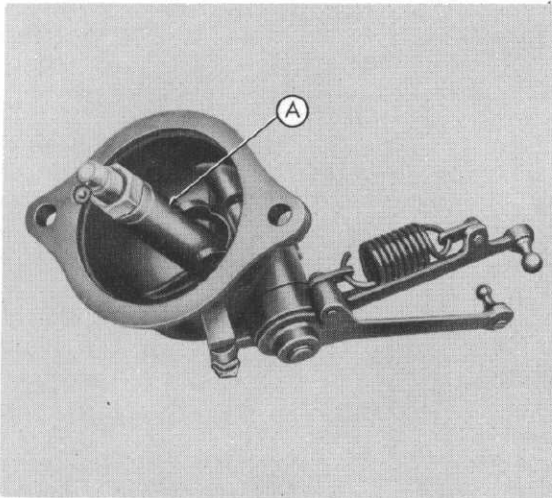

Fig. 3
Step 5—Examine the governor shaft bushing. If it is worn or damaged, remove as shown in A-Figure 3. (Do not loose thrust washer)